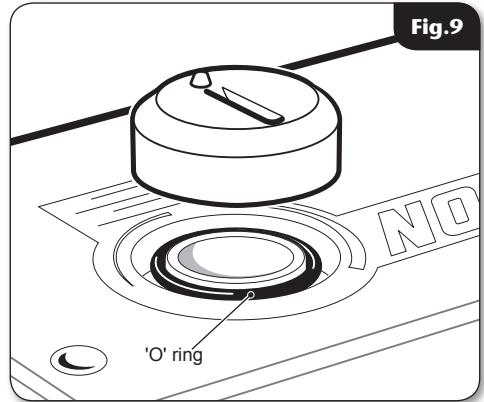

Fig.9
- Replace the PCB cover and variable speed control knob. Should the control knob have been detached from the cover, ensure the 'O' ring (**fig.9**) is correctly seated before replacing the control knob.